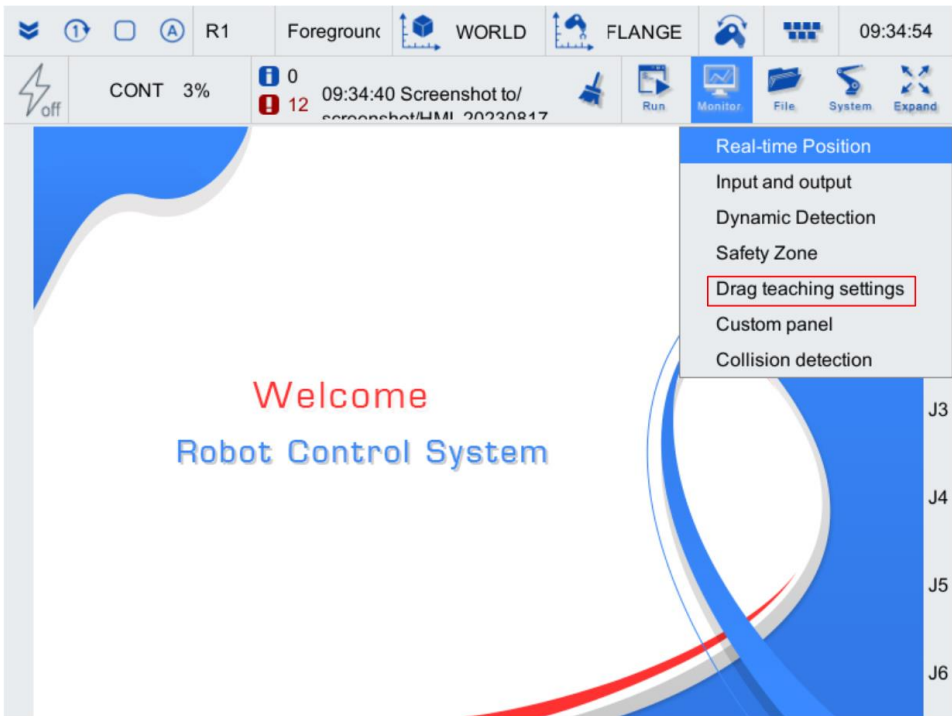

Figure 5-23 System related dropdown list
Step2. Click on the [Monitoring/Drag teaching settings] in the upper right corner menu area, as shown in Figure 5-23.